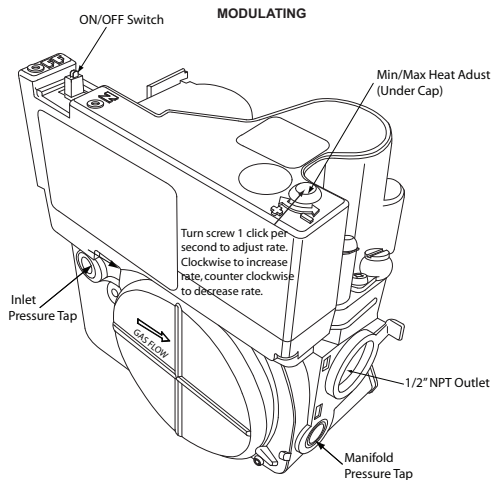

Fig. 14 - Gas Valve
- Attach manometer to manifold pressure tap on gas valve. See Fig. 14.